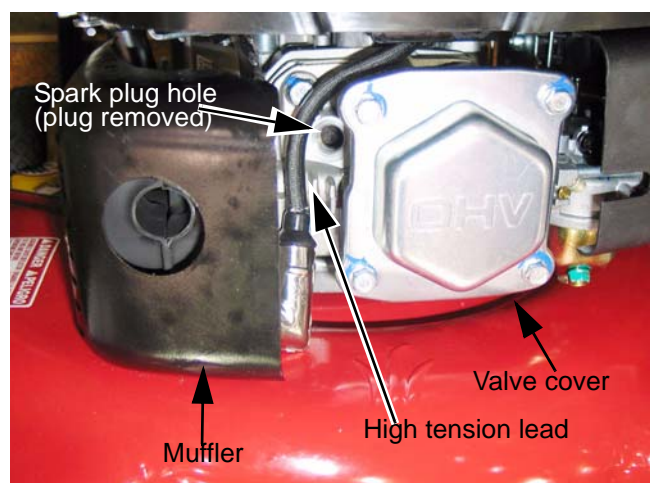

Figure 2.7
3. Remove the spark plug using a 13/16" or 21mm wrench. See Figure 2.7.